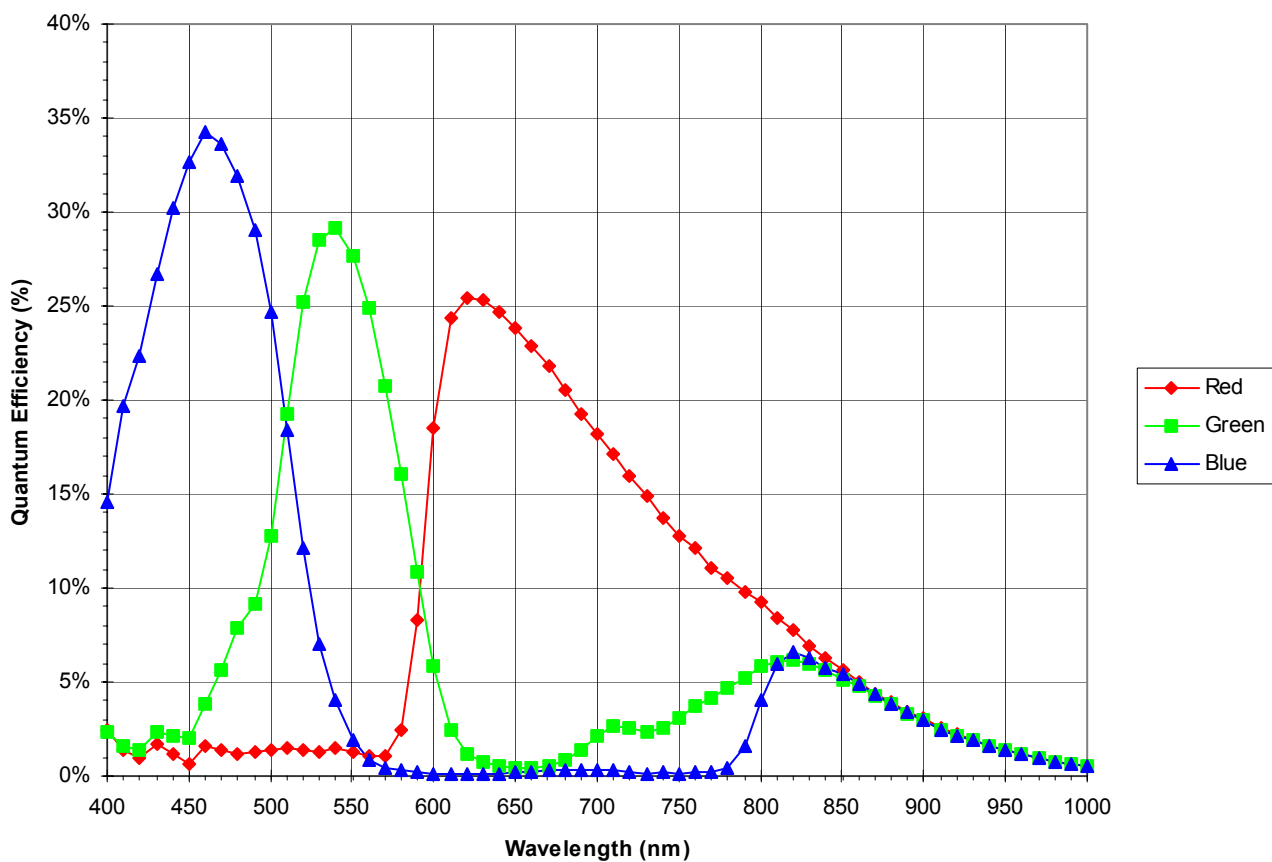

Figure 19 Nominal KAI 1011CM Spectral Response
2. Refer to typical values from Figure 19 Nominal KAI 1011CM Spectral Response.